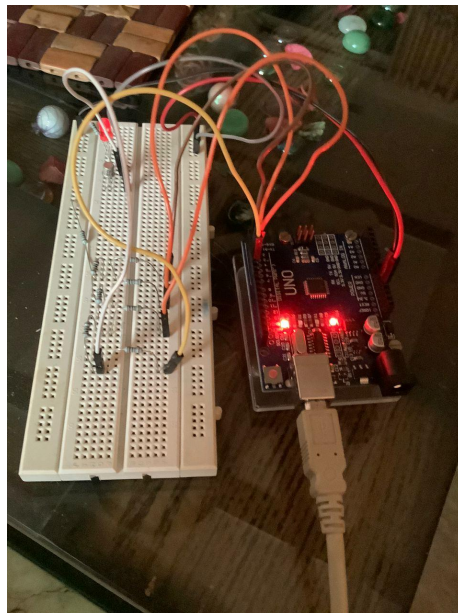

Figure 2: Connected DAC.
- 3) See **Figure 2**.
- C.2) The circuit was completed, as previously attached in **Figure 2**. A video may be found in the folder linked in Part E.